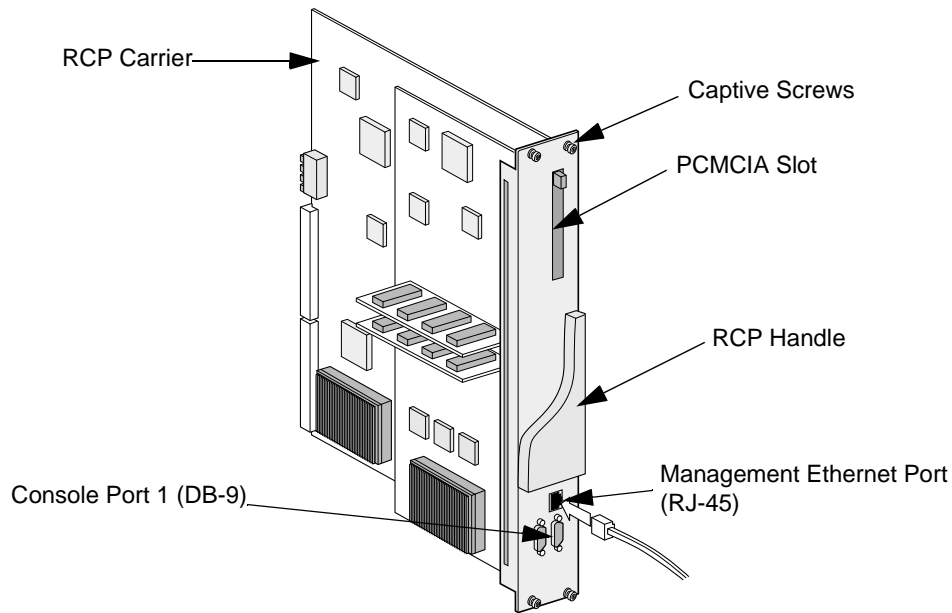

Figure 17-4. Route Control Processor Module
3. Orient the RCP module so that the PCMCIA slot is at the top (see Figure 17-4).
4. Orient the RCP module so that the PCMCIA slot is at the top (see Figure 17-4).